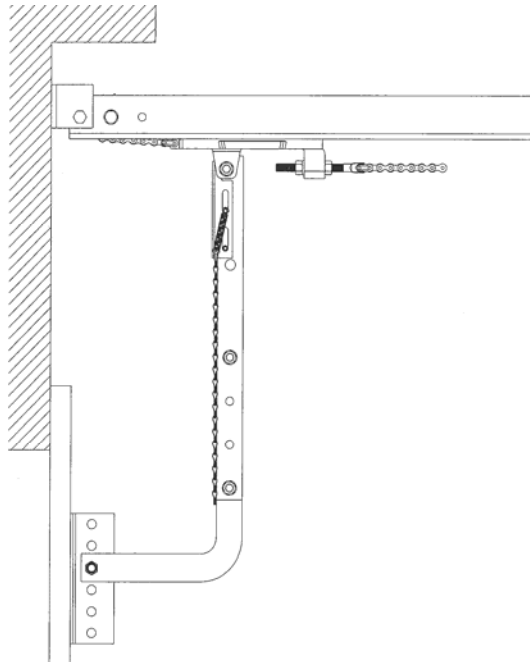

Figure 13 Position of door arm
14. Door arm should always lean vertical (Figure 13).